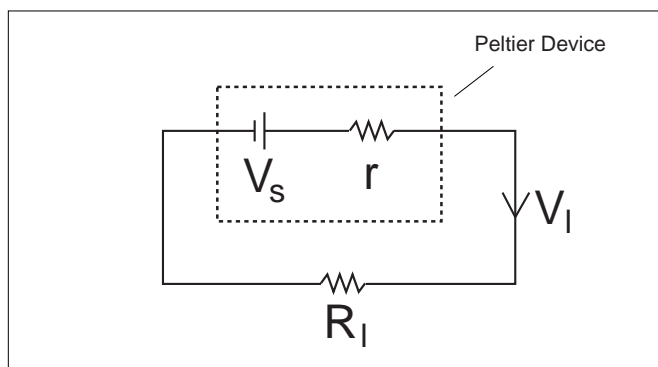
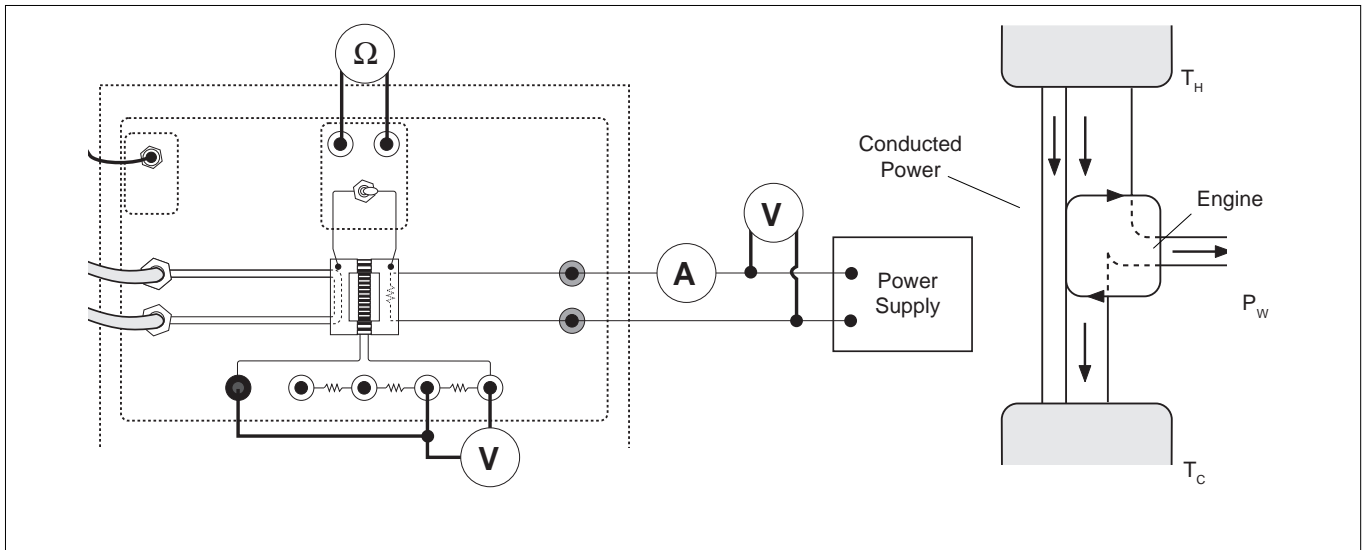
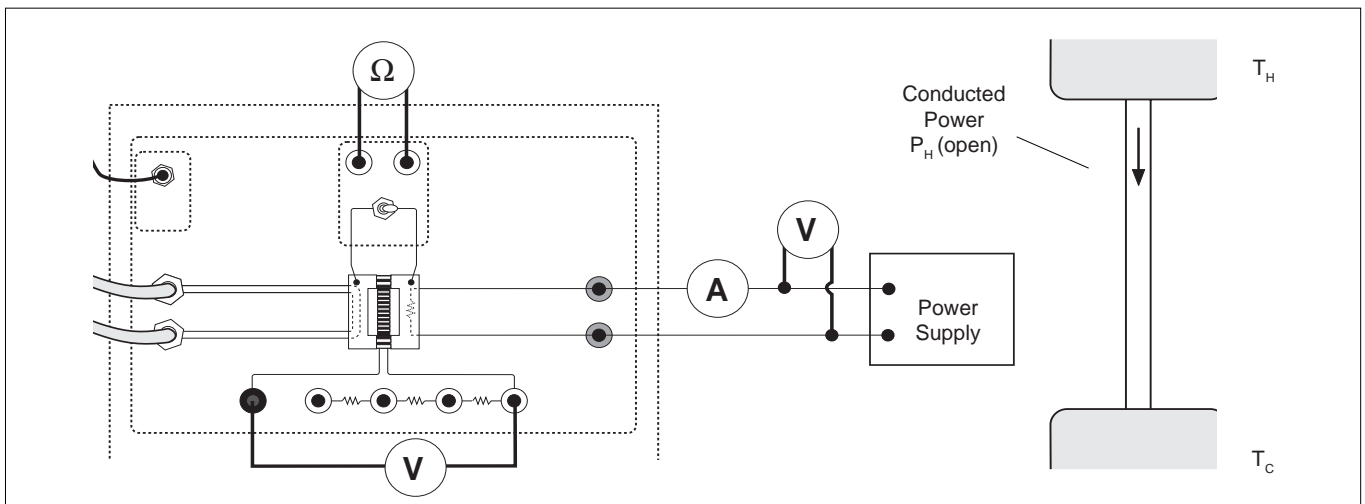
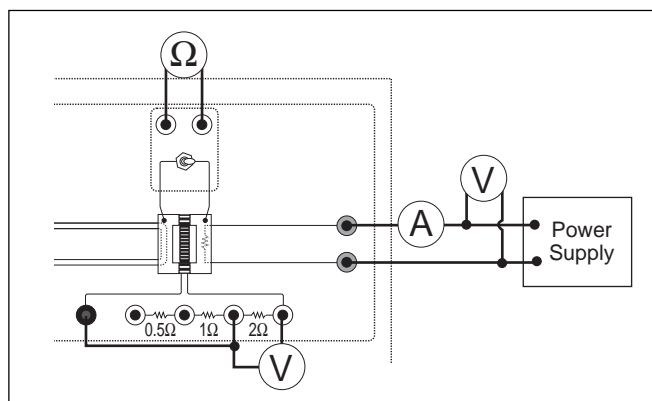

Figure 5: Procedure for Finding Internal Resistance
Figure 6: Heat Engine With A Load
Figure 7: No Load
Figure 2.1
First run the Thermal Efficiency Apparatus with a load resistor (R) as in figure 6. The electrical equivalent of this setup is shown in figure 5. Kirchoff's Loop Rule gives
Next, run the Thermal Efficiency Apparatus with no load, as in Figure 7. Since there is no current flowing through the internal resistance of the Peltier Device, the voltage drop across the internal resistance is zero and the voltage measured will just be V_S .
The Thermal Efficiency Apparatus is run with a load connected to measure P_H (Figure 6) and then the load is disconnected and the power input into the hot reservoir is adjusted to maintain the temperatures (less power is needed when there is no load since less heat is being drawn from the hot reservoir). See Figure 7. $P_{H(\text{open})}$ is the power input
The work can be measured directly but the heat delivered to the hot reservoir has to be measured indirectly. Notice that when the heat pump is operating, the temperature of the hot reservoir remains constant. Therefore, the hot reservoir must be in equilibrium and the heat delivered to it must equal the heat being conducted and radiated away. So a measurement of the heat conducted and radiated away at a given temperature difference will also be a measurement of the heat delivered to the hot reservoir. The heat conducted and radiated is measured by running the device with no load and measuring the heat input needed to maintain the temperature of the hot side (Figure 7).
- B. Connect the 2Ω load resistor with a short patch cord as shown in Figure 2.1. Connect a voltmeter across the load resistor.
- ② Open
- A. Disconnect the patch cord from the load resistor so no current is flowing through the load and thus no work is being done. Now all the power delivered to the heating resistor is either conducted to the cold side or radiated away. Leave the voltmeter attached so that the Seebeck voltage (V_s) can be measured. (see figure 7)